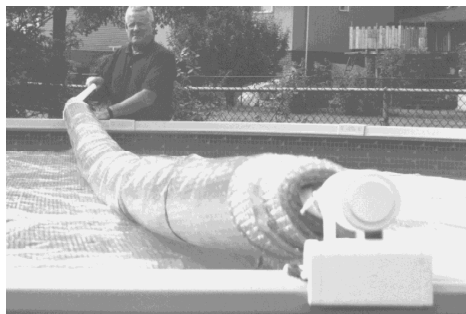

Fig. 11
- The Surface Rider is *designed to bow and ride the surface of the water* (see Fig. 11). The cover and the reel are supported by the buoyancy of the water during rolling.